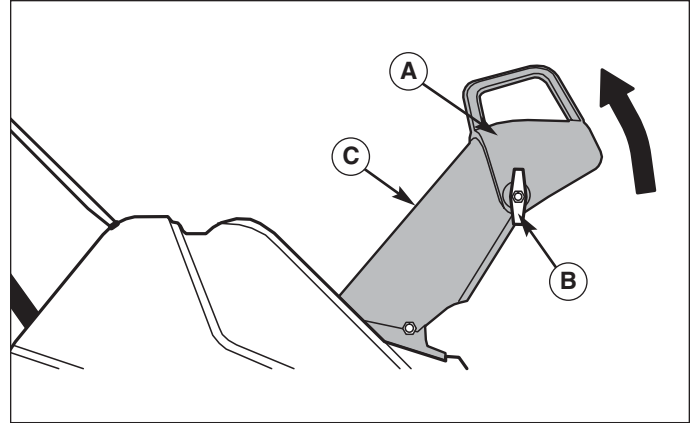

Figure 4. Upper Chute Installation
3. Remove the t-knob (B, Figure 4) and bolt on the upper chute.
4. Rotate the upper chute (A) to the operating position (past the lower chute stop)
5. Install the bolt and tighten the t-knob (B).